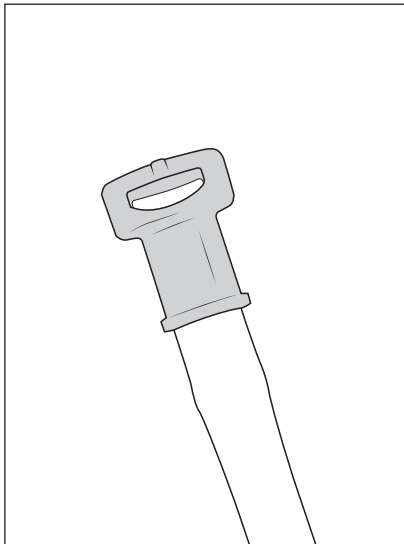

Figure 12
3. Install the chassis-side quick connect fitting saved from earlier to the end of the long supplied hose (fig. 12). Feed the fitting through the bumper brackets as shown below (fig. 13). Route it safely through the radiator support and along the frame, to the other end of quick connector behind the wheel liner. Be sure to avoid sharp edges and snag points. Connect the fitting but do not remove the clamp on the line yet.